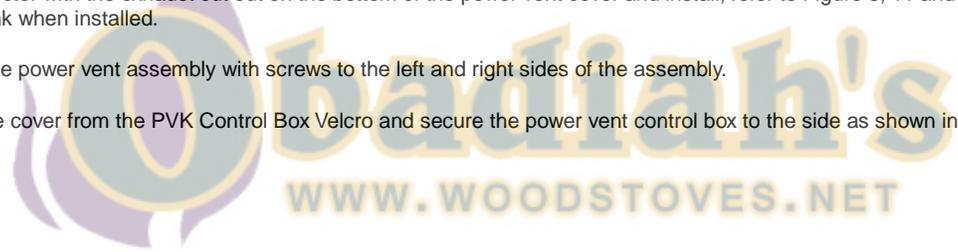

Figure 13: Removing Access Cover.
a) Remove the Access Cover from inside the firebox by removing all ten (10) T-20 screws (see Figure 13).